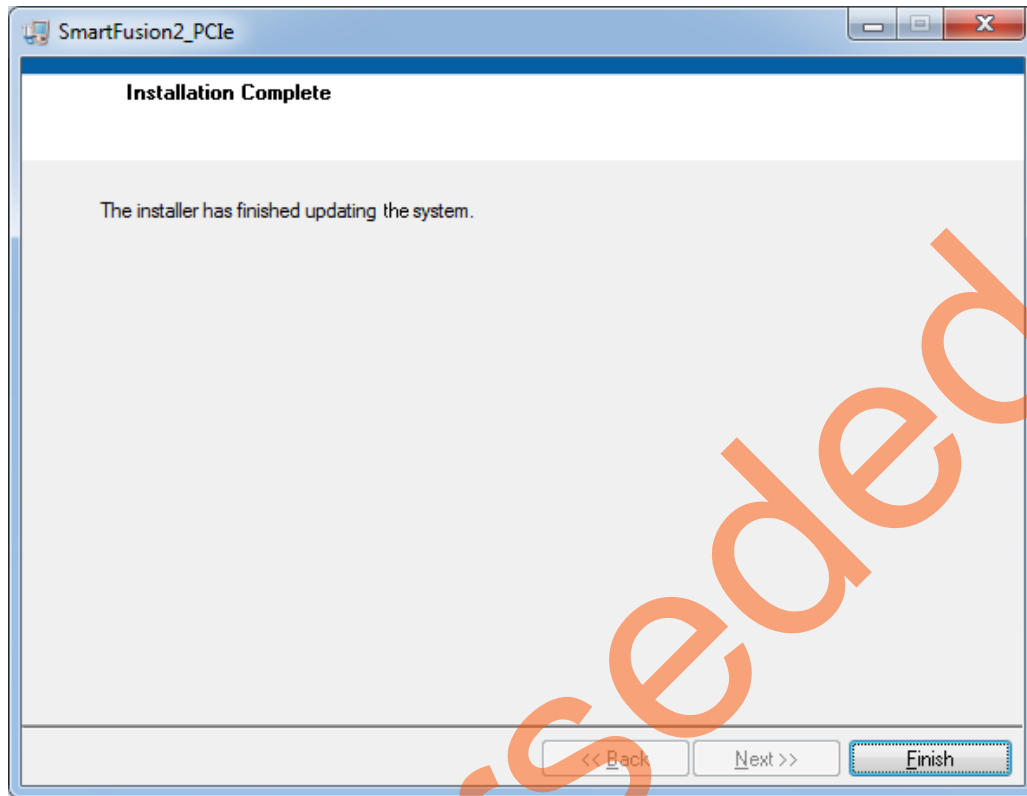

Figure 21 • Successful GUI Installation
3. Click **Next** and **Finish** to complete the installation. Figure 21 shows the **Successful GUI Installation** window.